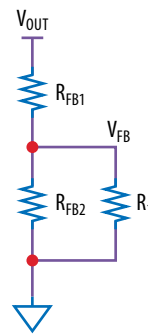

Figure 2. Output voltage adjustment R_1 and connection to the 16th brick module voltage feedback circuitry
3. The output voltage of the 16th brick module can also further be trimmed by adjusting R_1 . R_1 is connected between FB and GND, as shown in figure 2. Please refer to the 16th brick module documentation for details.